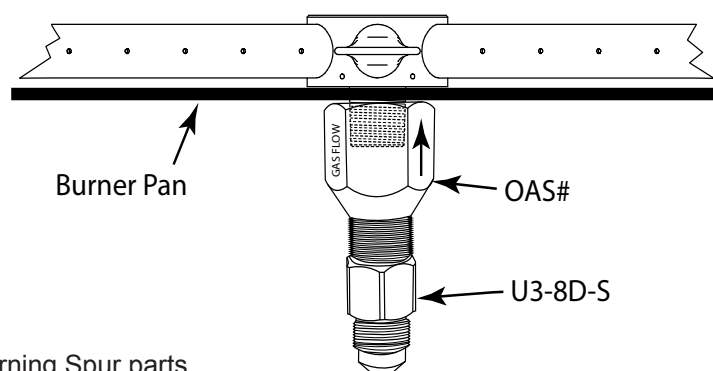

Fig. 5. Natural Gas Burning Spur parts
4. The primary gas shut-off (not supplied) will require a ½" male flared fitting to enable connection of the stainless steel flex gas line supplied with the fire pit (see Fig. 5 page 9).
5. Do not place an LP tank inside any fire pit enclosure. Locate all Liquid Propane (LP) tanks outside the enclosure.
The burner pan for the Burning Spur needs a center hole a minimum of $\frac{7}{8}$ -inch in diameter. We strongly recommend using a pan for any Propane or LP Gas installations. Once the Burning Spur is placed into the center hole of your fire pit pan then install the orifice (OAS) and fitting (U3-8D-S) as shown in Fig. 5. **Note:** Use Teflon tape or compound rated for gas to seal the threads.